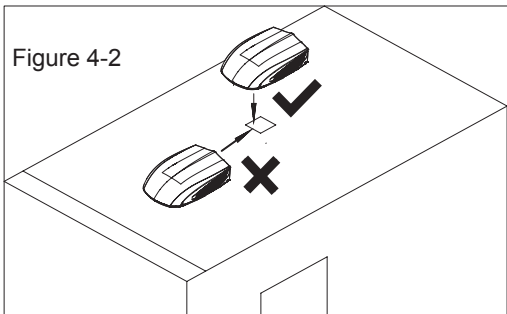

Figure 4-2
- 1) Place the outdoor unit at the roof of vehicle; lift the outdoor unit and then place the outdoor unit after drilling holes at the roof of vehicle.Do not drag the outdoor unit.Otherwise, the sealing strip may fall off(see Figure4-2).